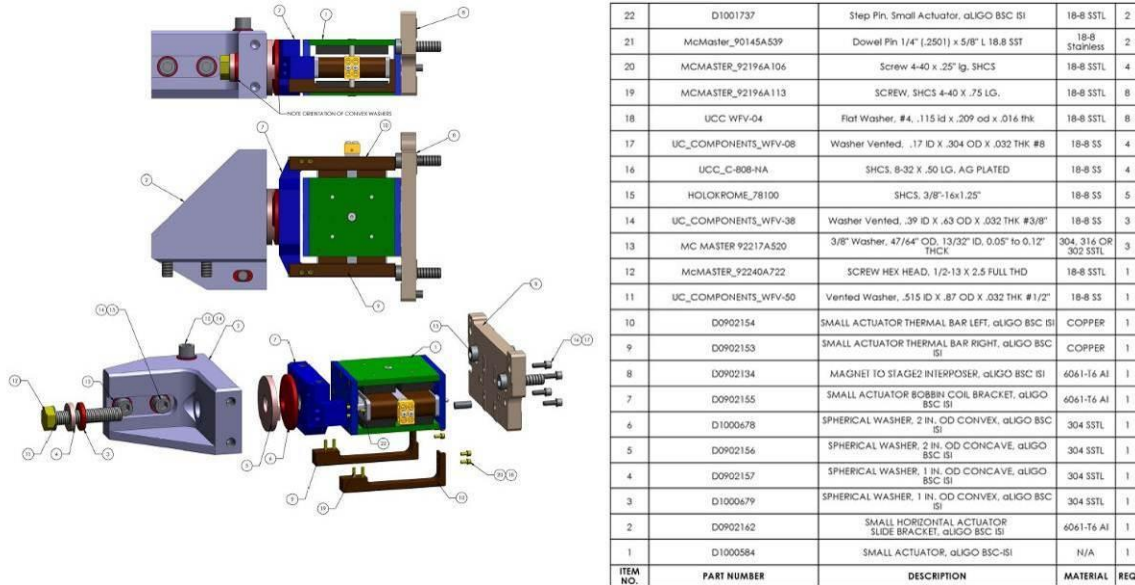
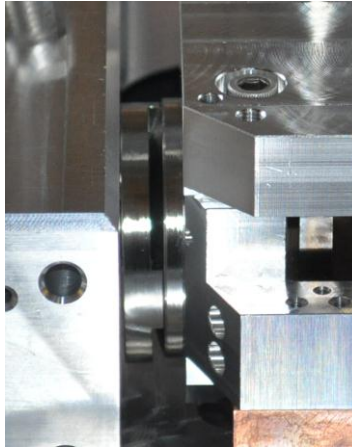

Figure 141: D0902530 Stage 1-2 Horizontal Actuators Assembly
Figure 142: Improper Alignment of the Spherical Washers.
(1) Spherical Washer 1 In. OD Concave – D0902157
- Insert (2) 3/8-16 x 1.25" SHCS with (2) 3/8" Vented Washers through D0902134 Magnet to Stage 2 Interposer into D0901521 Radial Left Walls. Snug them and **torque them up to 329 in.lbs.**
- Insert (3) 3/8-16 x 1.25" SHCS with (3) 3/8 Vented Washers through D0902162 Stage 1-2 Horizontal Actuator Slide Bracket into D0902279 Stage 1 Base Plate (1 from the top & 2 from the side).
- Position D0902162 Stage 1-2 Horizontal Actuator Slide Bracket with (1) 1/2"-13 x 2.5" HHCS Bolt & D0902157, D1000679, D0902156 & D1000678 Spherical Washers against D0902530 Stage 1-2 Horizontal Actuators Assembly, paying attention to properly order of these Spherical Washers (see Figure 141).
- Finger tighten (3) 3/8-16 x 1.25" SHCS while still allowing the bracket to slide.
- Finger tighten the 1/2"-13 x 2.5" HHCS, paying close attention to concentricity and height of the Spherical Washers (see Figure 142).